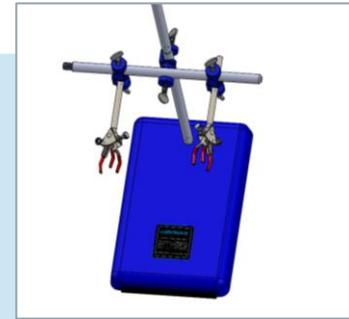

**Figure 7.** Install the Cross Rod and Tighten the Thumbscrew
5. At the desired height, install the Rod/Clamp Assembly from Step 1 onto the vertical Rod (Figure 7).